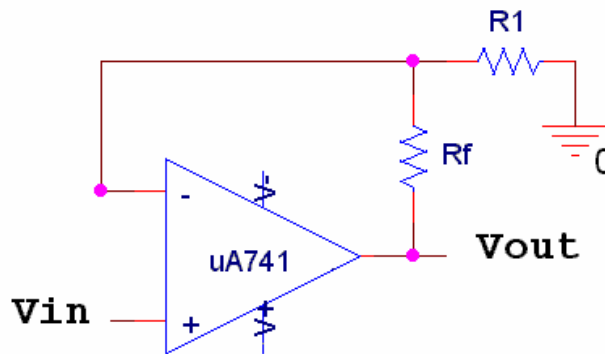

Figure A-6
*The Non-inverting Amplifier:* Figure A-6 shows a *non-inverting amplifier*. Its behavior is governed by the following equation:  $V_{out} = \left(1 + \frac{R_f}{R_{in}}\right)V_{in}$ .